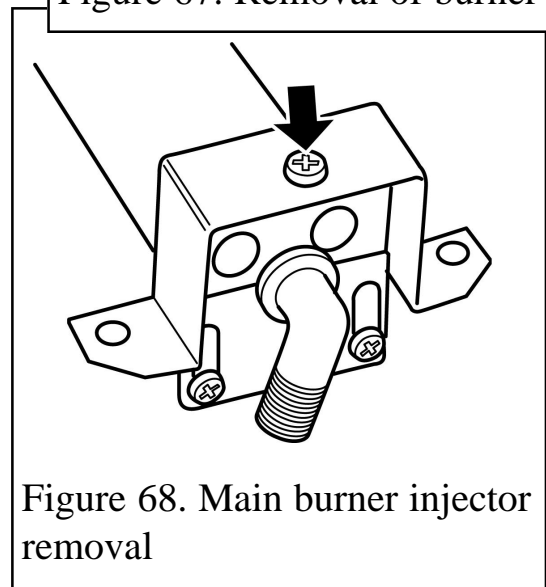

Figure 68. Main burner injector removal
(See figure 68).
2. Remove the burner clamping screw (See figure 68).